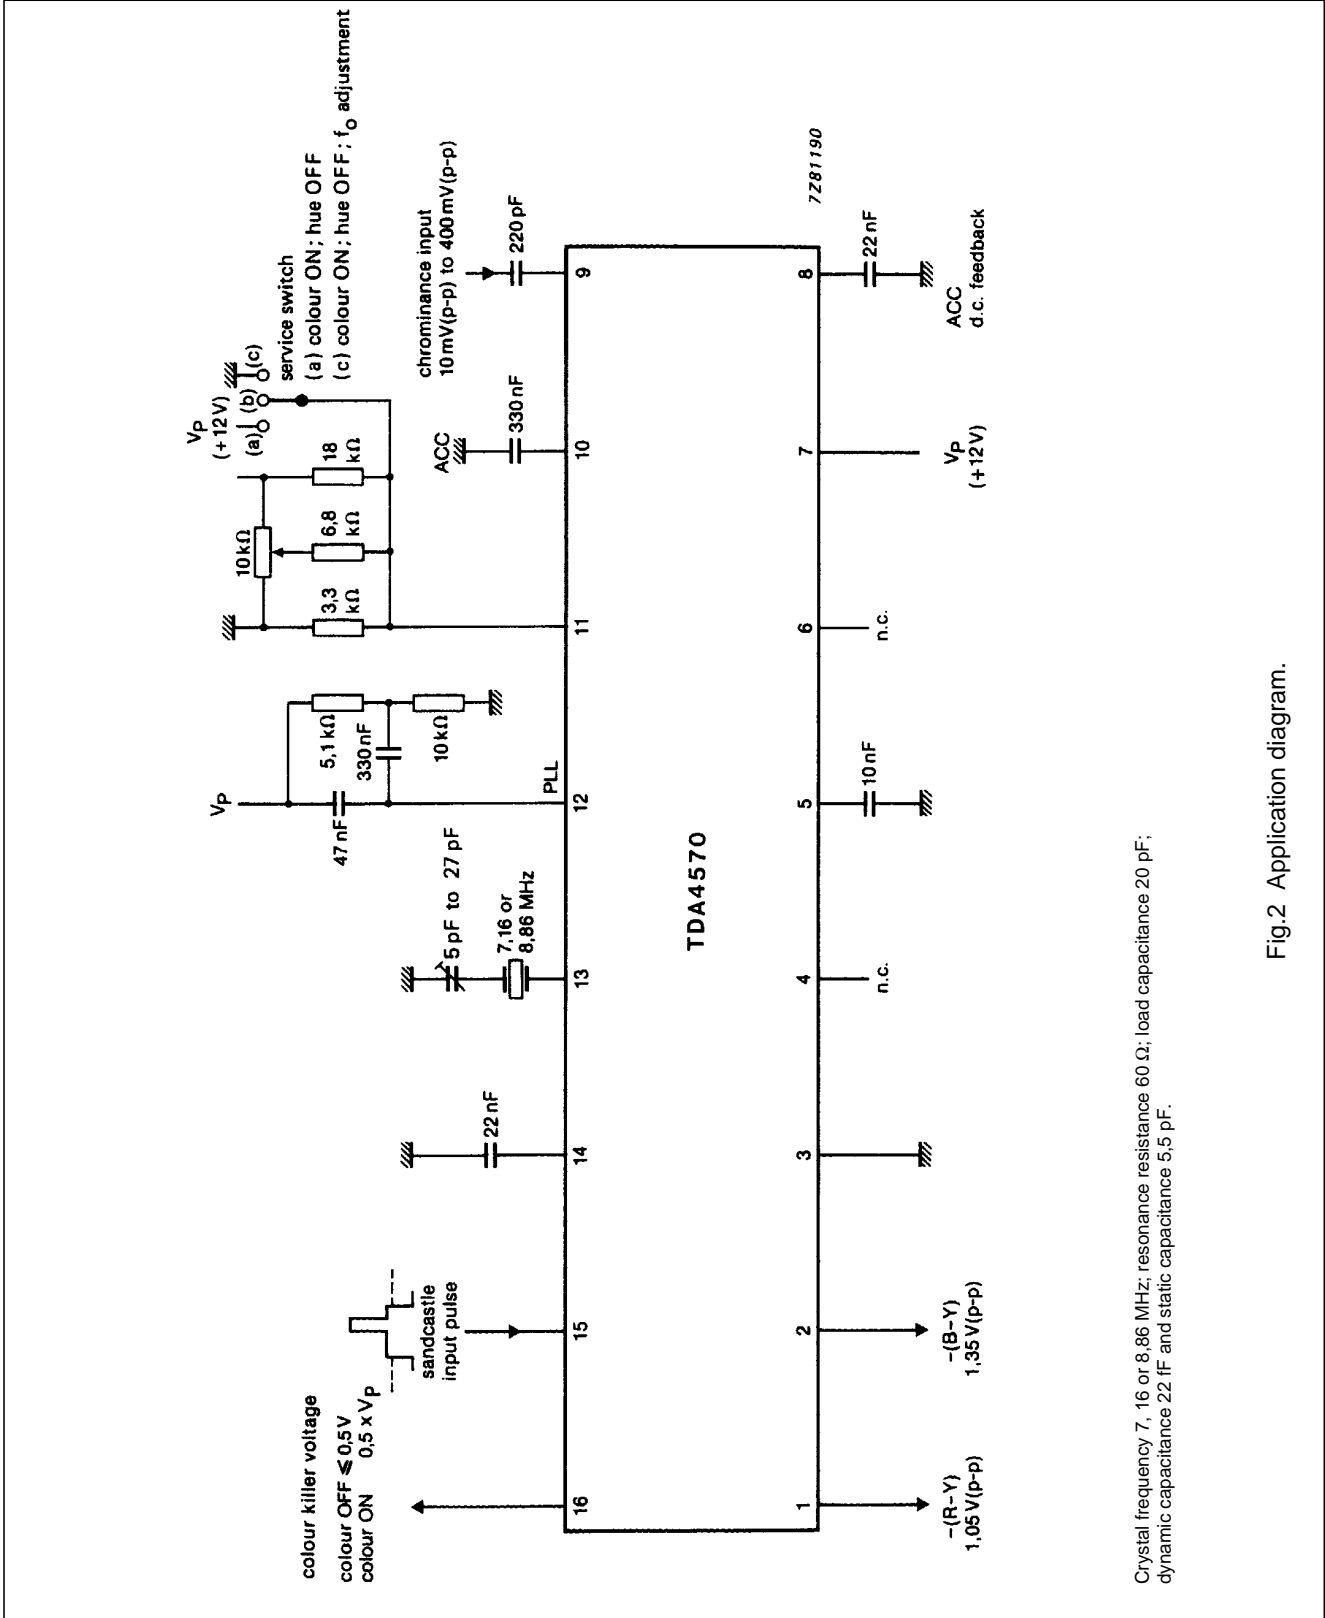

Fig.2 Application diagram.
**CHARACTERISTICS** $V_P = 12\text{ V}$ ;  $T_{amb} = 25\text{ °C}$ ; measured in Fig.2 unless otherwise specified